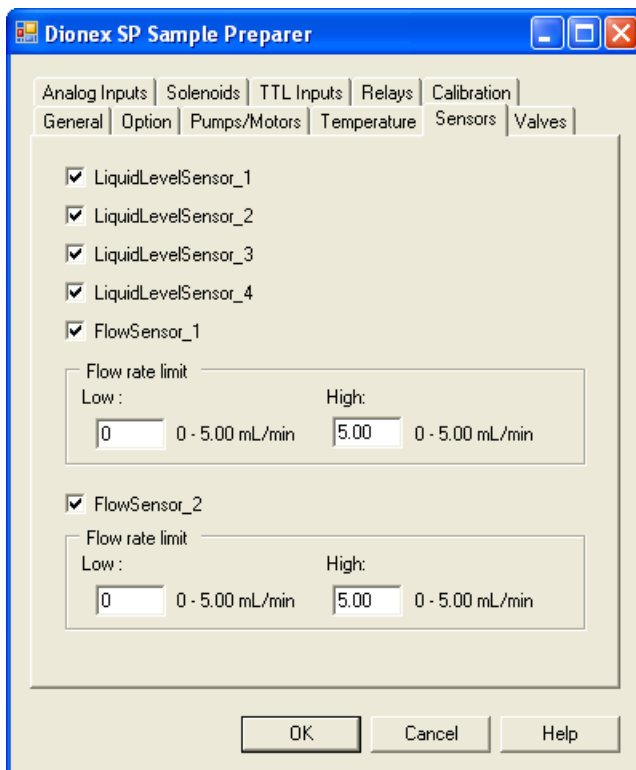

Figure 3-38. Chromeleon Server Configuration: Sensors Page
When liquid level sensors are connected, they are enabled on the **Sensors** page of the Chromeleon Server Configuration program (see Figure 3-38).
10. Open the Chromeleon Server Configuration program and open the SP **Properties** dialog box. The **Flow Sensor_1** (or **Flow Sensor_2**) check box is enabled on the **Sensors** page (see Figure 3-38). Enter the low and high flow limits. Save the configuration.